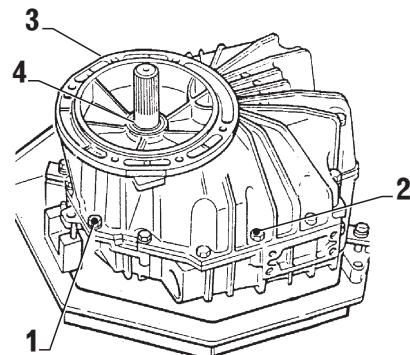

FIG. 6-1b
Loosen and remove all hex head bolts and lock washers (item 2 and 3, Fig. 6-1b). Using a plastic hammer slightly tap the split line of the case halves to break the seal. Then remove the input side of the housing.
First remove radial shaft seal ring (item 4, Fig. 6-1b) to remove the housing half.